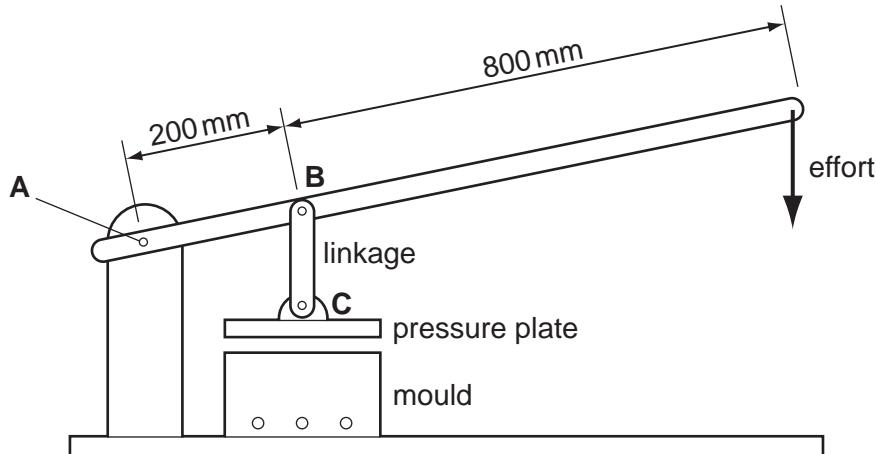

Fig. 9
- (b) Fig. 9 shows a diagram of a lever-operated can-crushing device.